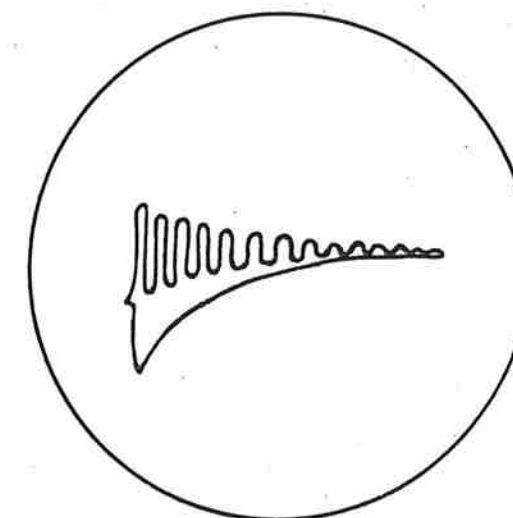

Figure 5-8—Adjustment of H-V Oscillator
- 3) With the 1000 cycle signal from the generator applied to the horizontal sweep amplifier of the oscilloscope, adjust C-202 until a single stable Lissajou figure is obtained, as shown in figure 5-8.